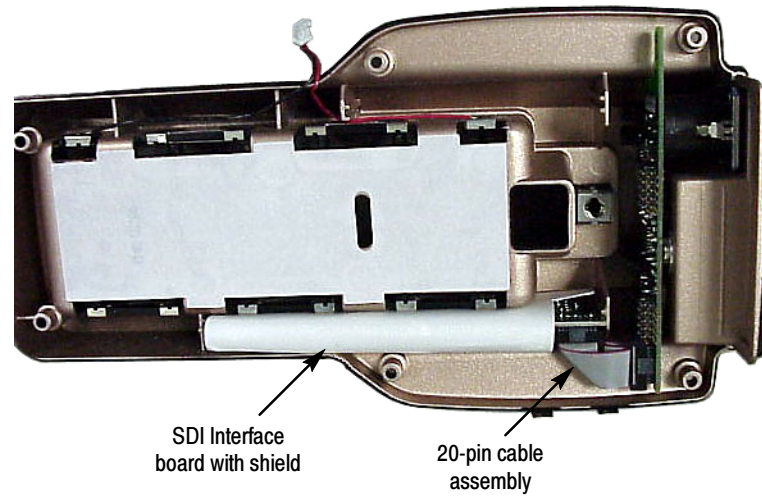

Figure 10: SDI Interface board with 20-pin cable connected
2. Plug the 20-pin cable assembly into the J1 connector on the SDI Interface board (see Figure 10).